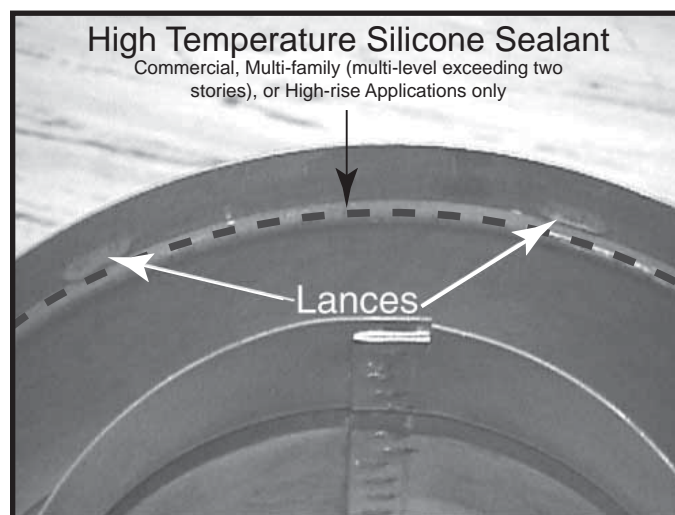

Figure 8.1 Lances
To attach the first pipe section to the collars, slide the male end of the inner vent of the pipe section over the inner collar on the firebox assembly. At the same time, slide the outer flue over the outer collar on the appliance. Push the pipe section into the appliance collar until all the lances (see Figure 8.1) have snapped in place. Tug slightly on the section to confirm it has completely locked into place.
- Apply a bead of silicone sealant inside the female outer pipe joint prior to joining sections. See Figure 8.1